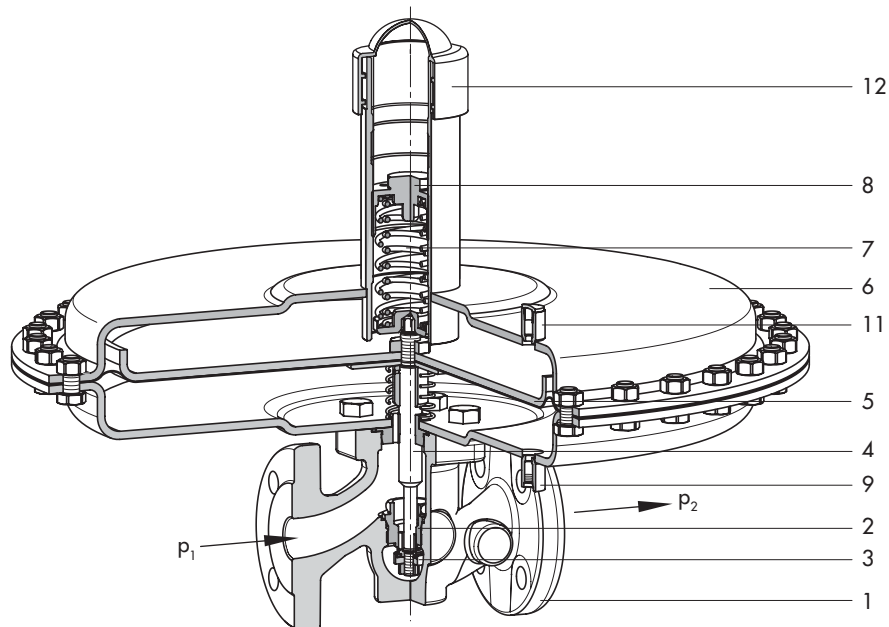

Fig. 3: Type 2405 Pressure Reducing Valve without pressure balancing · K_{VS} 1.6 to 4 · Flow-to-open
- Pressure reducing valve with proportional control action (see Fig. 3)